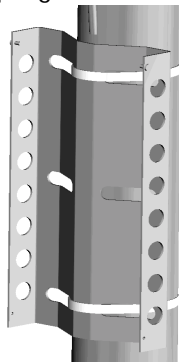
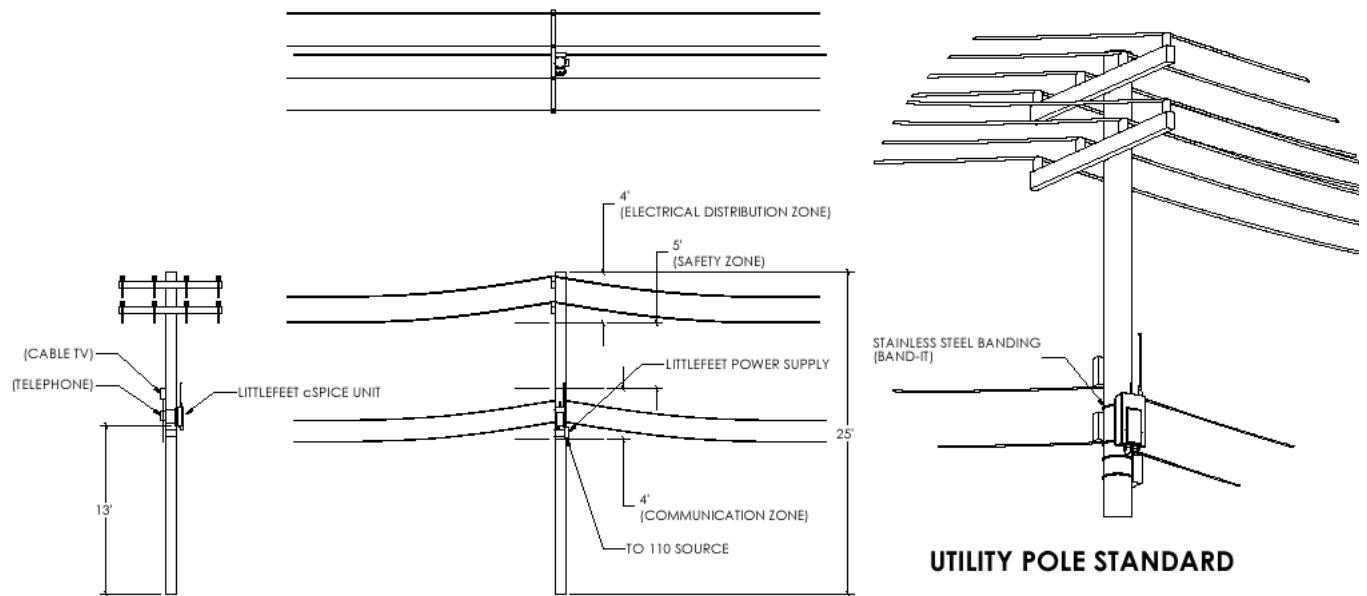
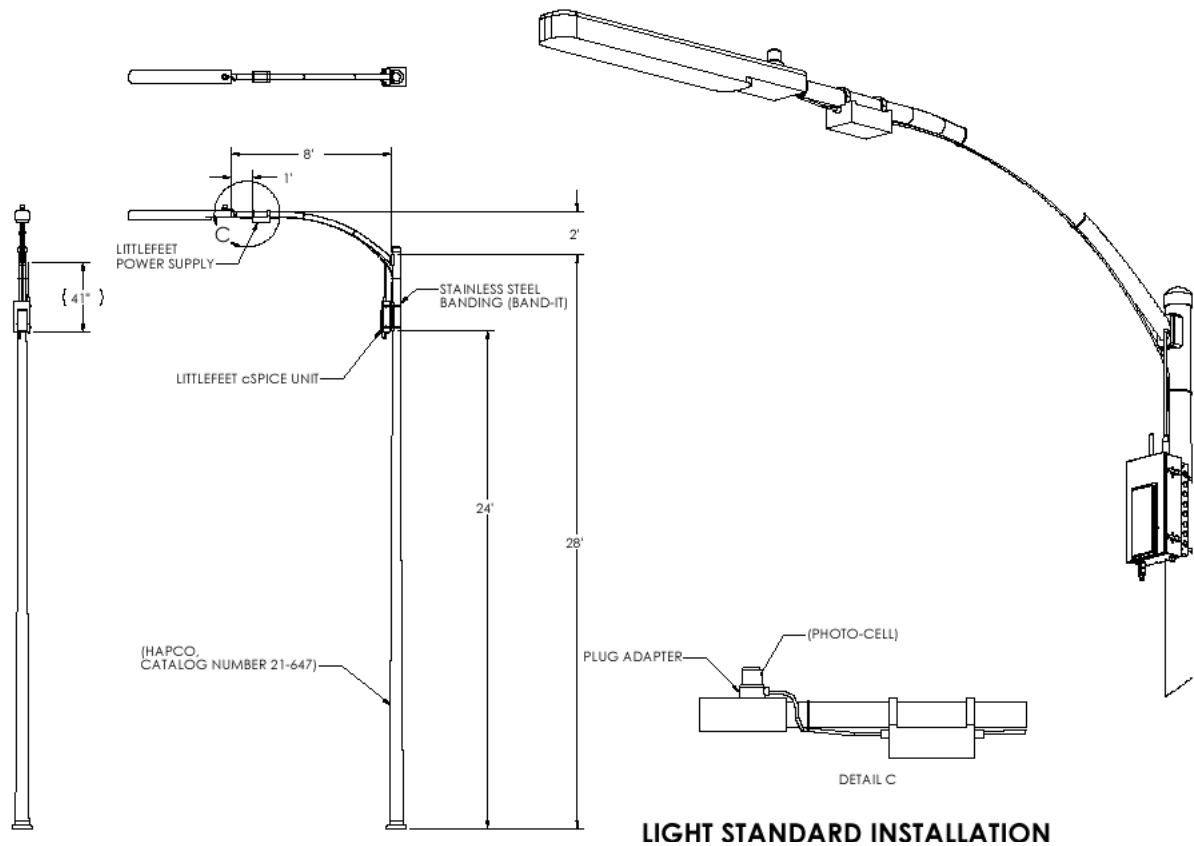
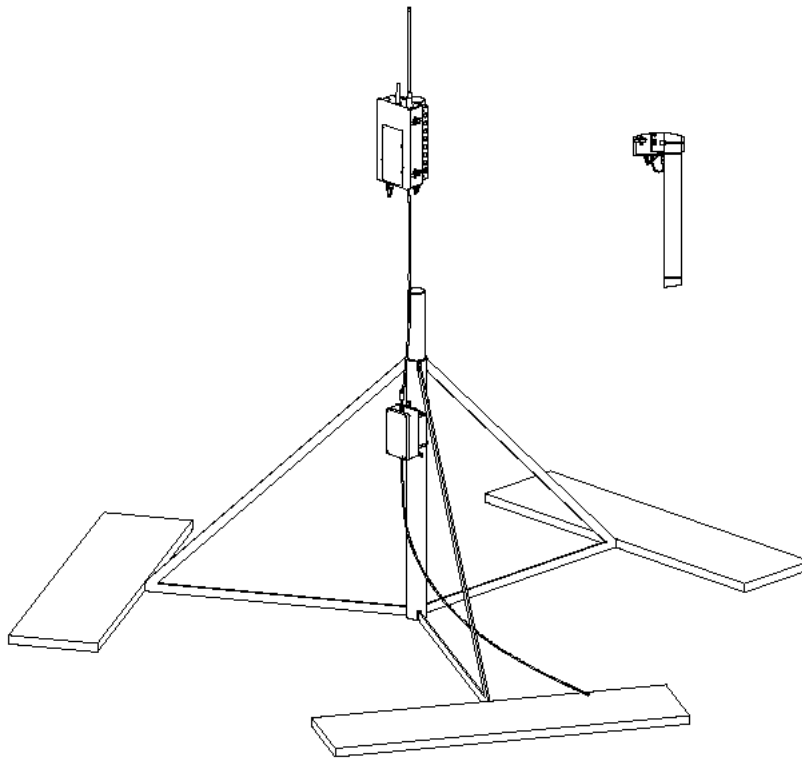

figure 25. pole bracket
figure 26. utility pole installation
figure 27. light pole mount
figure 28. tripod installation
The bracket can be mounted using a hose clamp (preferred) or banding tool if the unit is to be placed on a pole (Item 1) (Figure 25, Figure 27, Figure 26, Figure 28). If using banding, double wrap the strapping (720). Attach the pole mount bracket using two bands through the top and bottom slots (Item 4).